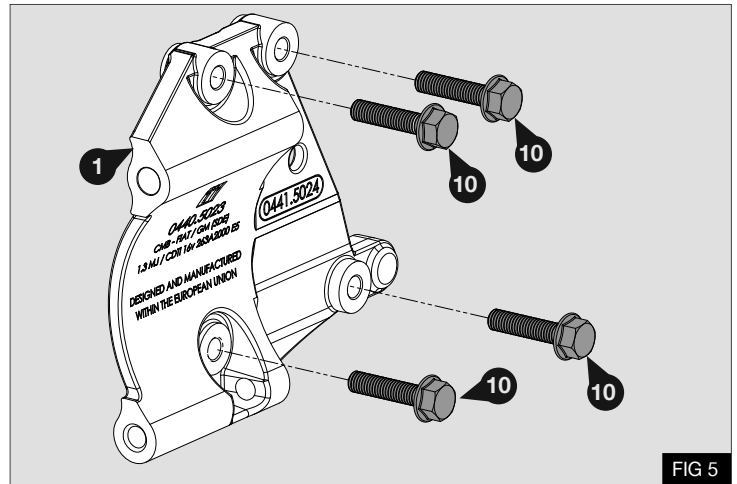

FIG 5
1. Install the mounting bracket (1) using 4x M8 x 35 bolts (10).
- Fig 5